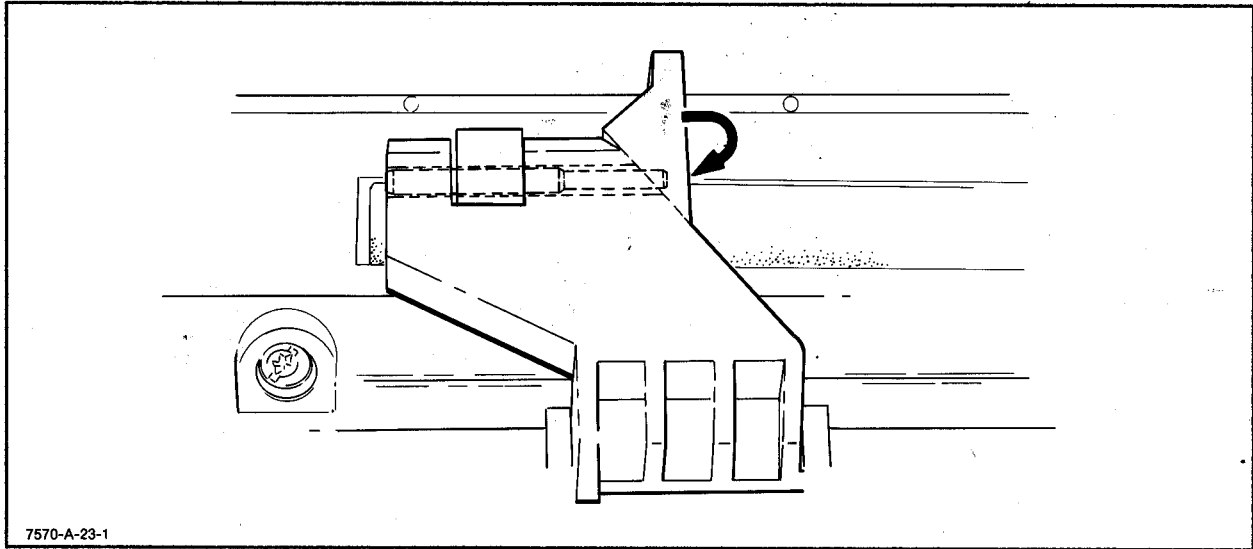

Figure 6-18. Pinch Wheel Removal
- b. Press on the end of the small shaft protruding from the outer end of each pinch wheel arm. See Figure 6-18.